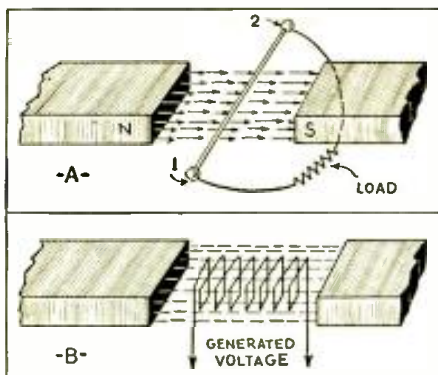
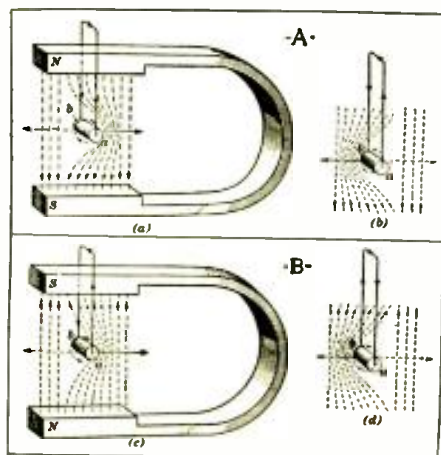

Fig. Q.256A
Fig. Q.256B, left
(A.1) This figure is reproduced as Fig. Q.256A. Three conditions are necessary in order that a wire generate a voltage: (1) the wire must be in motion; (2) the wire must be in a magnetic field; (3) the wire must move at right angles or across the field. It is the latter factor that is of special interest to you. When the wire is moving up, Fig. Q.256A, detail A, the voltage generated in it is in one direction; when the wire moves down, an equal voltage is generated in it, but in the opposite direction. If the wire rotates in (cuts across) the magnetic field, as shown in detail B, one end must go "up" (refer to the view) once and then down (the entire action taking place in the field shown by dashes); consequently, the polarity generated changes, as the wire rotates in the field. This will be made a little more clear by reference to Fig. Q.256B.